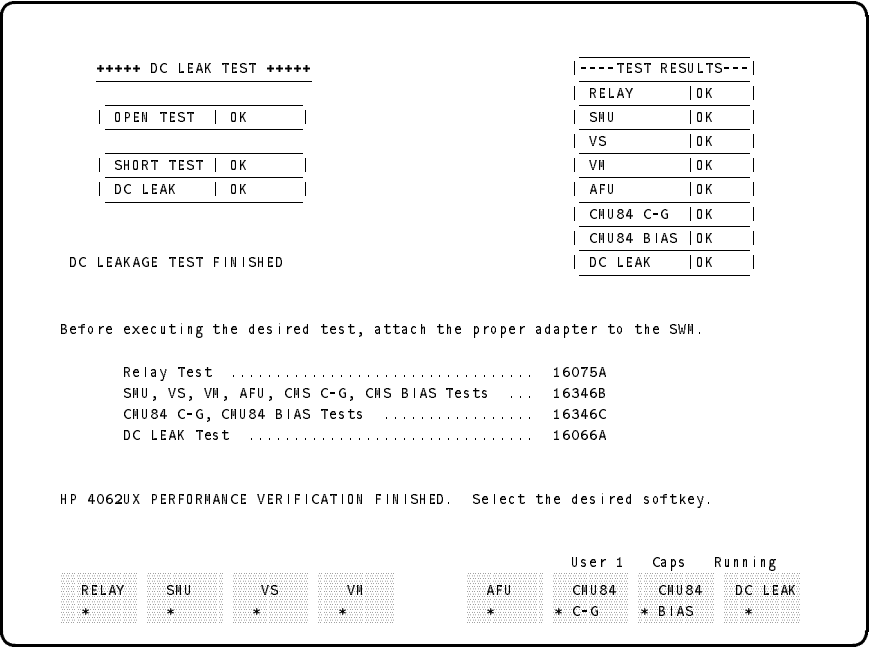

Figure 2-23. DC Leak Test Results
2. Select the **DC LEAK** softkey. If performing the SEQ Test, select the **NEXT** softkey. (To skip this test, select the **SKIP** softkey.) The DC Leak Test starts immediately. After the DC Leak Test is finished, test results are displayed as shown in Figure 2-23.